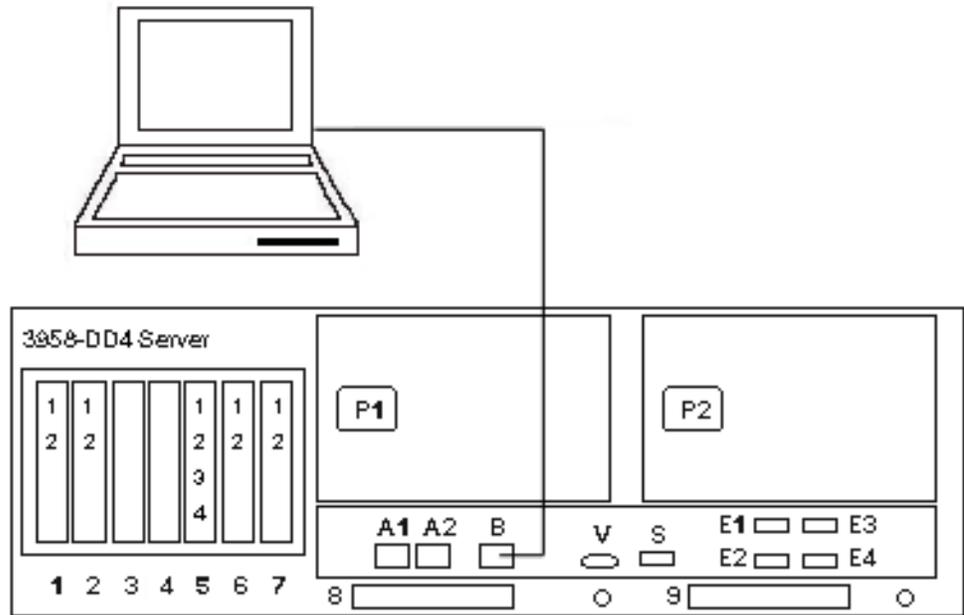

Figure 49. Service laptop to RSA connection
2. Connect an Ethernet cable from the Ethernet port on your laptop to the SYS MGMT (RSA port) on Server B. See Figure 49 on page 157.